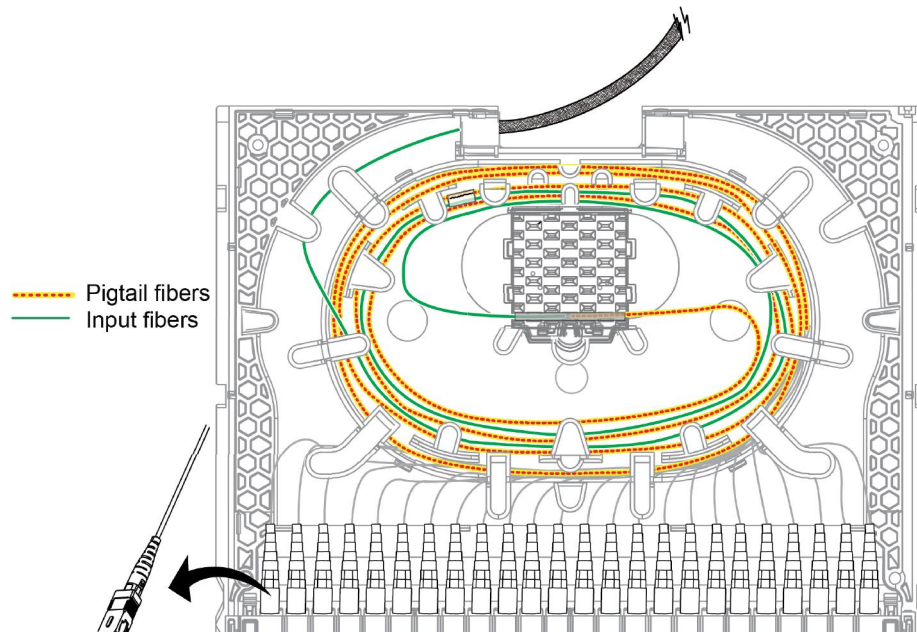

Figure 68
Step 5: Remove each connector in turn (Figure 68) and clean the connector end face and the adapter, if necessary, per standard company practices or as described in Section 9.